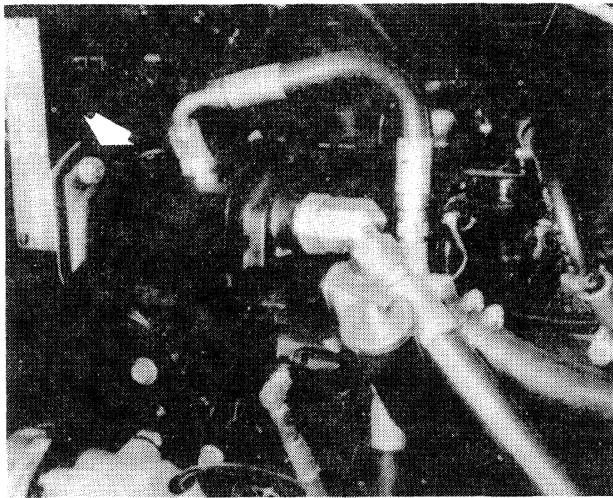

FIGURE 2-10: Hydraulic Pump Removal
- Remove mounting capscrews securing hydraulic pump to the engine. Pull pump back disengaging pump drive gear teeth from engine gear. Remove hose clamp securing pump suction hose from the engine, and swing pump with the hoses to the side (Figure 2-10).
8. Install hydraulic pump to the engine. Ensure that the teeth on the pump gear align with the engine gear teeth (Figure 2-10).